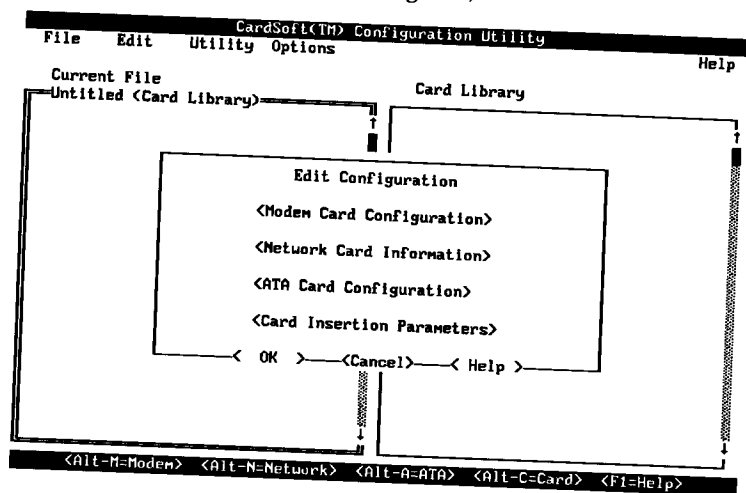

Figure 6 Edit Configuration Menu
- 2 Select **Edit Configuration** from the File pull down menu. The Edit Configuration menu appears (see *Figure 6*).